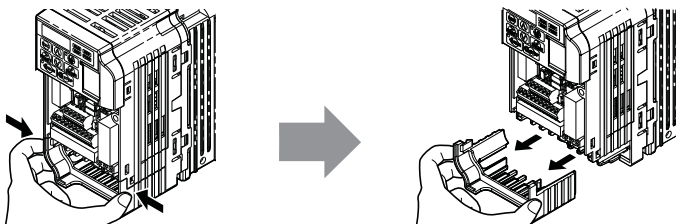
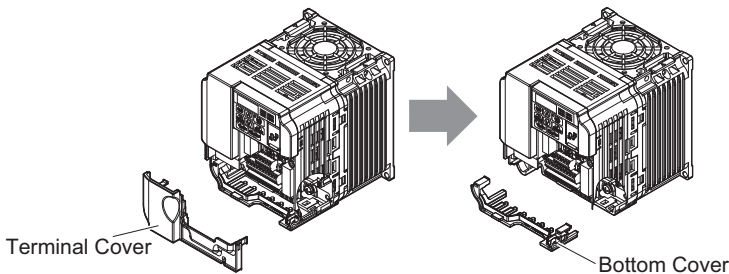

Figure 5 Remove the Bottom Cover on an IP20/Open-Chassis Drive (Models CIMR-V□□BA0001B to BA0003B and 2A0001B to 2A0006B)
Figure 6 Remove the Terminal Cover and Bottom Cover on an IP20/Open-Chassis Drive (Models CIMR-V□□BA0006B to BA0018B; 2A0008B to 2A0069B; 4A0001B to 4A0038B)
- For IP20/Open-Chassis models CIMR-V□□A□□□□□B, Remove the bottom cover of the drive by applying pressure to the tabs on each side of the bottom cover. Pull the bottom cover away from the drive while pushing in on the tabs to release the cover from the drive. Refer to Figure 5 for details. Refer to Figure 6 for drive models CIMR-V□□BA0006B to BA0018B, 2A0008B to 2A0069B, and 4A0001B to 4A0038B, which require removing the terminal cover prior to removing the bottom cover.